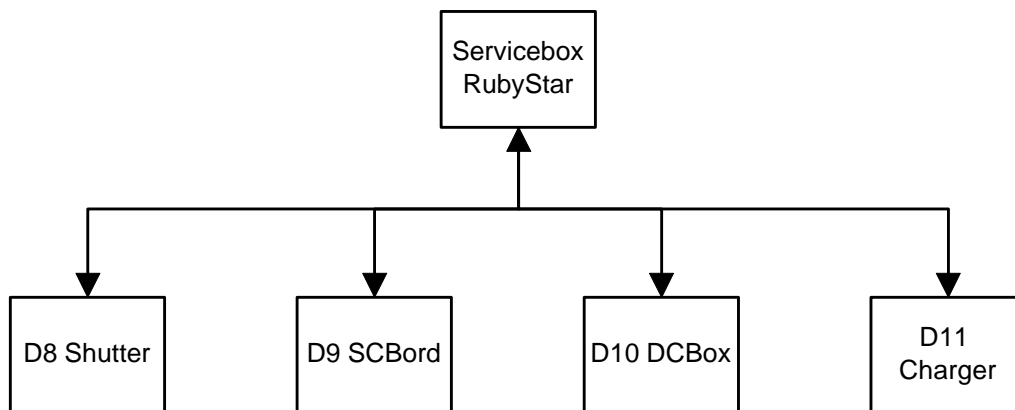
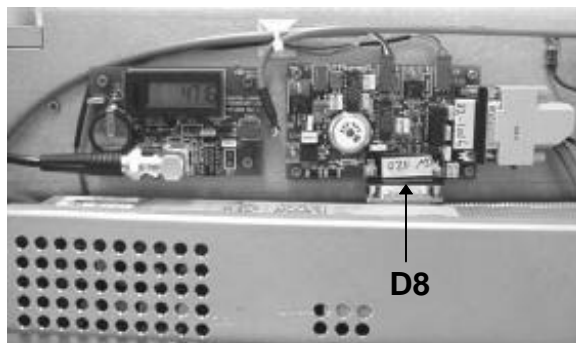
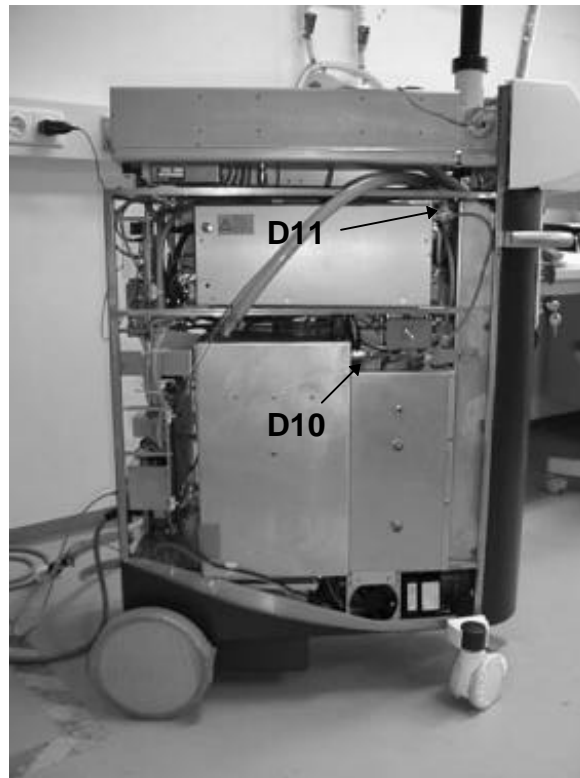

Fig. 23: Service box cables
Fig. 24: Connection of service cable to Shutter & Audio Warning PCB → **D8**
Fig. 26: Connection of service cables → **D10** and **D11**
- Connect service cables (Fig. 23) to test box and laser device. For this, first disconnect the connectors on the device and replace them with those of the service box (Fig. 24 - Fig. 26)